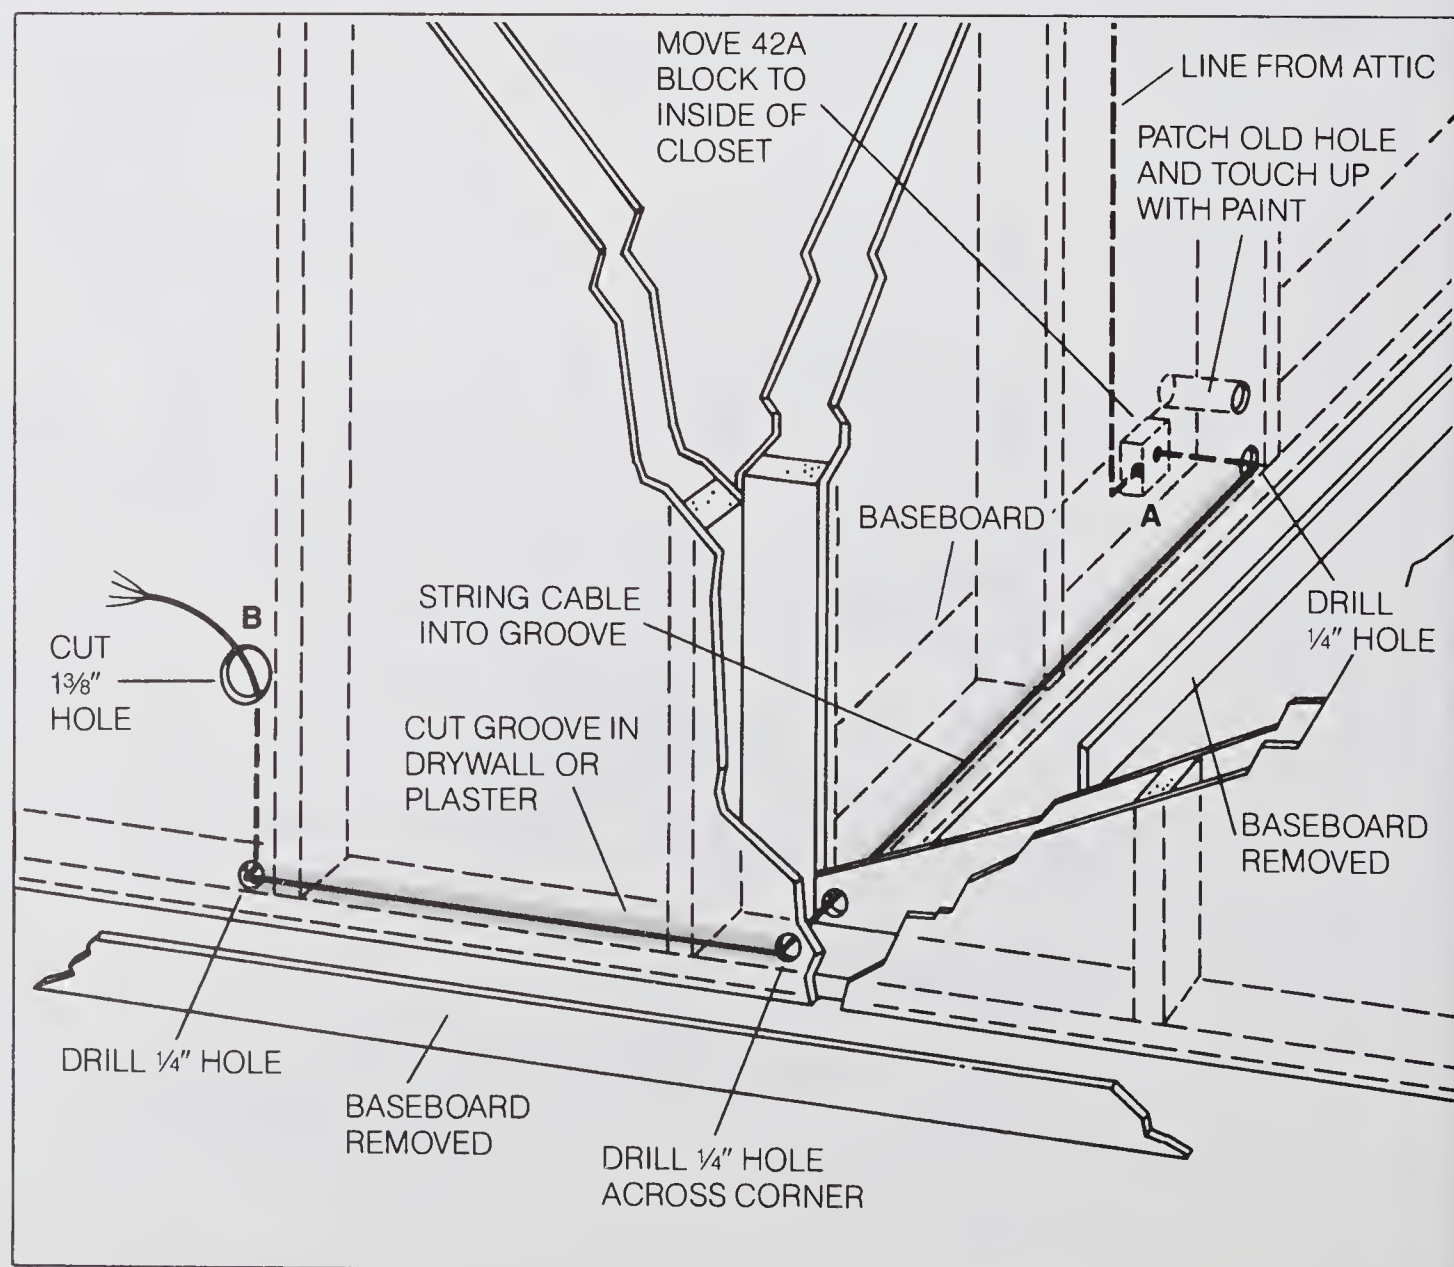

Figure 7-3.
The steps to this installation follow. A layout is shown in *Figure 7-3*.
5. Make sure everything is clear of house wiring, plumbing and wall studs below the old hole in the hall wall. Drill a 1/4" hole that will be covered by the baseboard through the wall and through the baseboard in the closet as shown in *Figure 7-3*.
6. Also, as shown in *Figure 7-3*, drill another $\frac{1}{4}$ " hole across the corner from the hall to the bedroom in the region that will be covered by the baseboard.
7. Locate the position for the round outlet B in the front bedroom. Make sure it falls between studs. Cut a $1\frac{3}{8}$ " hole in the wall at this position. The hole is shown in *Figure 7-3*.
9. With a knife, chisel or other sharp point, cut a groove in the bedroom and hall walls between the drilled holes deep enough to allow the cable to be run behind the baseboard. *Figure 7-3* shows the cable laid into the grooves.
10. With a nail, string, and a coat hanger or fish tape, fish outlet B and pull the cable from the baseboard hole in the wall to the $1\frac{3}{8}$ " outlet hole as shown in *Figure 5-6*. Pull enough cable to leave 6"-8" sticking out the hole for outlet B (*Figure 7-3*). Attach the mounting ring for the round outlet with plastic anchors and screws.